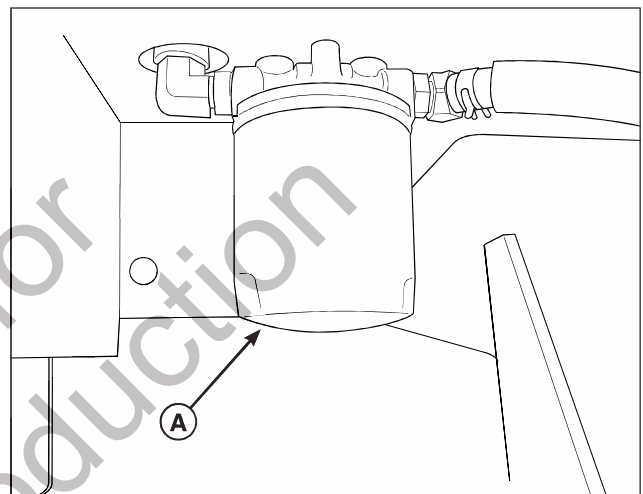

Figure 17. Change Hydraulic Oil Filter
1. Locate the transmission oil filter (A, Figure 17). The transmission oil filter is located underneath the engine deck by the left rear tire of the machine.